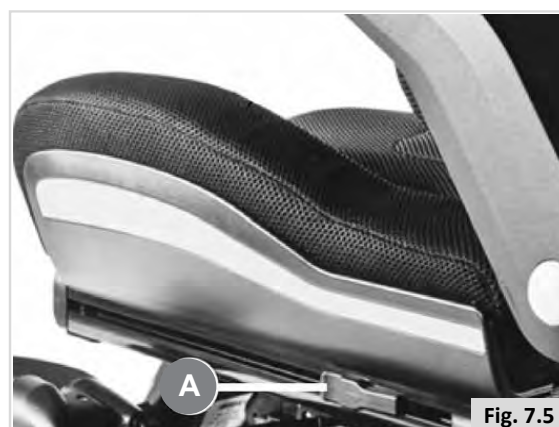

Fig. 7.5
- Pull the plastic lever that is attached to the aluminum seat side rails backwards (Fig. 7.5 - A).